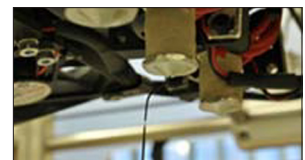

Fig. 38
9. When the material jets from the print jet tip, the next screen will ask if you want to replace another cartridge. If replacing another or adding cartridge, select the print jet's material cartridge to be replaced / added and repeat "LOADING MATERIAL CARTRIDGE" instructions. (Fig. 38)